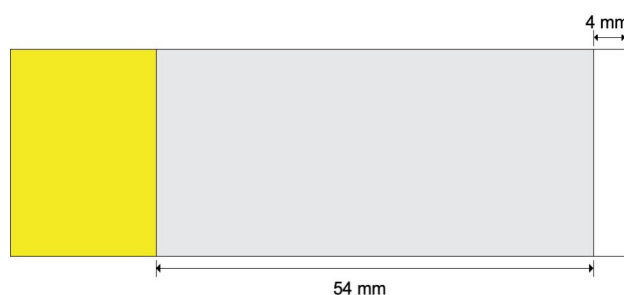

Figure 2.6. Approximate accessible imaging area (in gray) for PhenolMager Slide Carrier. The small square on the left (in yellow) indicates the slide label.
- The area of the slide that is accessible for scanning is shown for the PhenolMager Slide Carrier in Figure 2.6 (in gray) and for the PhenoCycler Flow Cell Slide Carrier in Figure 2.7 (in gray).